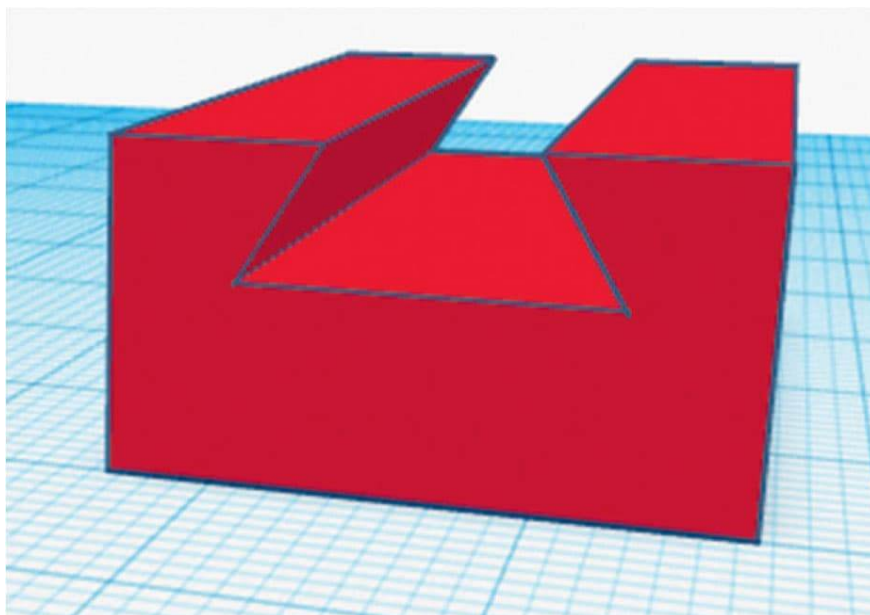

FIG. 2: Grouping the triangular prism and the box creates a dovetail-shaped socket/notch.
3. Convert the roof to a hole and group with the box to complete the socket section of the joint (fig. 2). It should look like a through hole in the box that's shaped like a dove's tail.